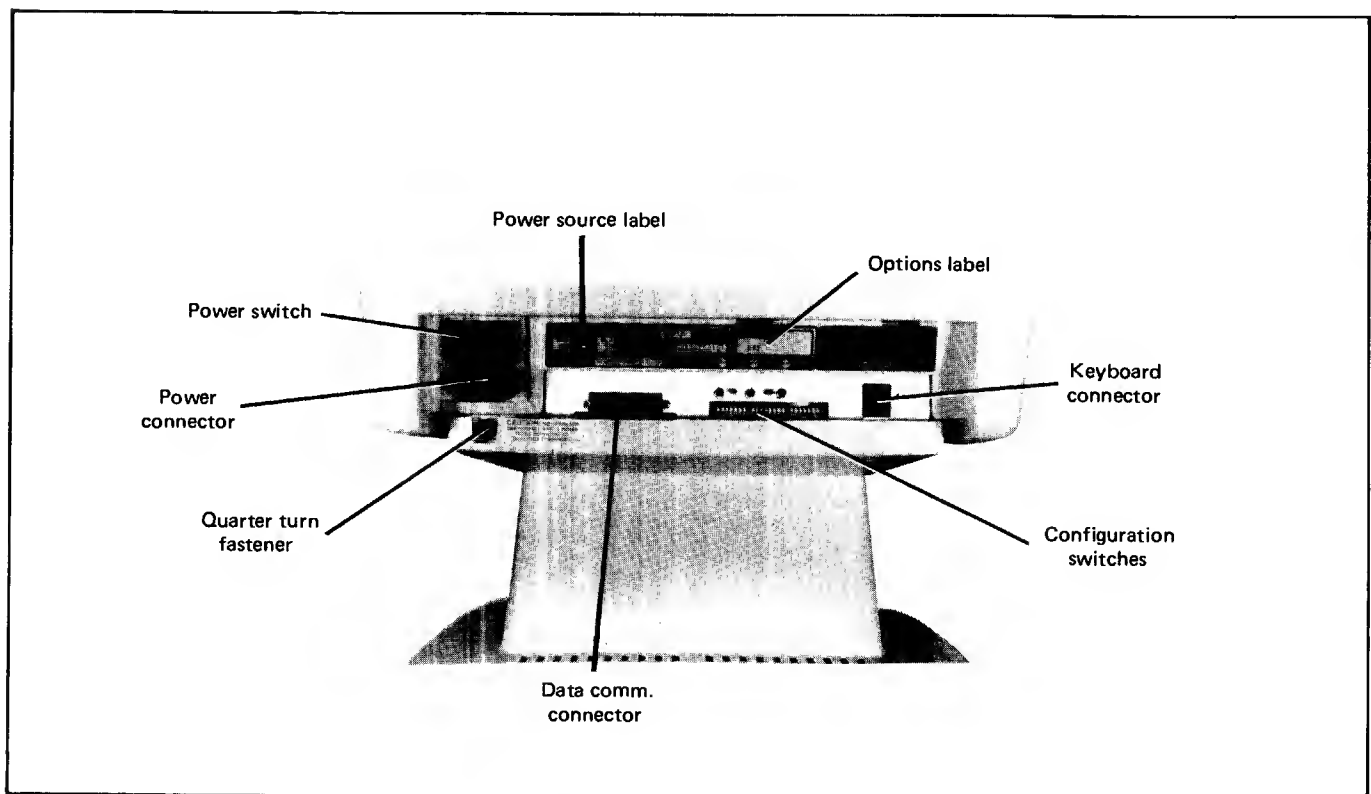

Figure 2-2 Terminal Rear View
1. Using a small cross-head screwdriver, loosen the quarter-turn fastener (figure 2-2) at the lower left rear of the terminal. Do not turn the fastener more than a quarter-turn.
1. Check that the available power source is correct. Refer to the power source and option labels at the rear of the terminal (figure 2-2).
4. Position the keyboard in front of the terminal and connect the keyboard cable to the KYBD connector at the lower right rear of the terminal (figure 2-2).